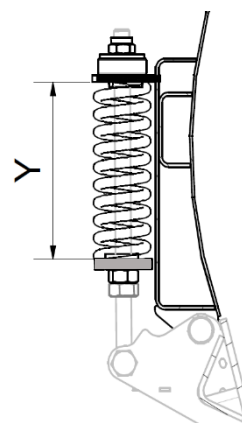

Figure 21
- 3) Tighten nut M2 against nut M1 to lock the spring – see Figure 21
- 4) Loosen nuts M1 and M2 in the lower part of the spring – see Figure 21